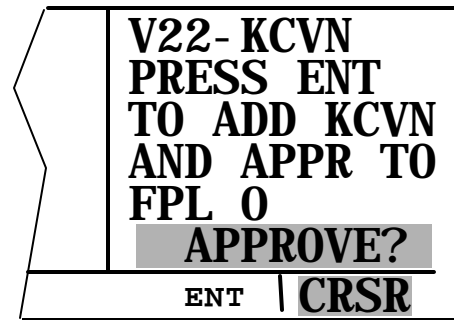

Figure 3D-67. Loading the Approach
1. Load the approach into the flight plan. If there is only one IAF, the KLN 90B does not give the option to choose an IAF. If there is no active flight plan (i.e., direct to navigation is being used without an active flight plan), the KLN 90B will ask to add the airport and the approach to FPL 0. Refer to Figure 3D-67.